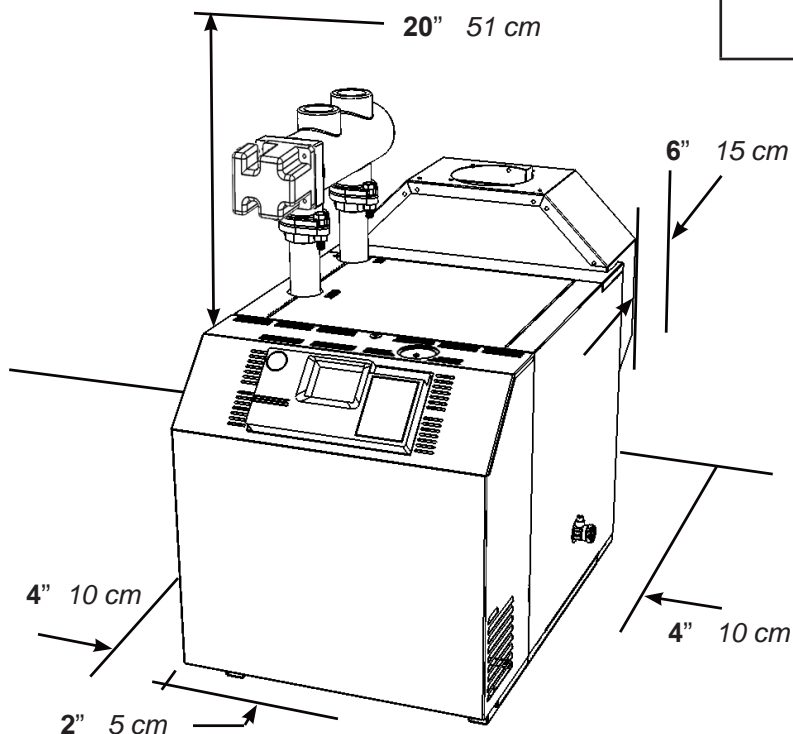

Figure 6. Minimum Clearances
1. This boiler is designed for indoor installations only and should be located to provide clearances on all sides for maintenance and inspection. See Figure 6. It should not be located in an area where leakage of any connections will result in damage to the area adjacent to the unit or to lower floors of the structure. When such a location is not available, it is recommended that a suitable drain pan, adequately drained, be installed under the unit.
4. Boilers may be installed in a closet as long as all minimum clearances are followed, including between the front of the boiler and the closet door when it is closed. See Figure 6. Consult the American National Standard Z21.13 for more information concerning closet installations. In Canada, refer to the latest edition of CSA-B149.1.